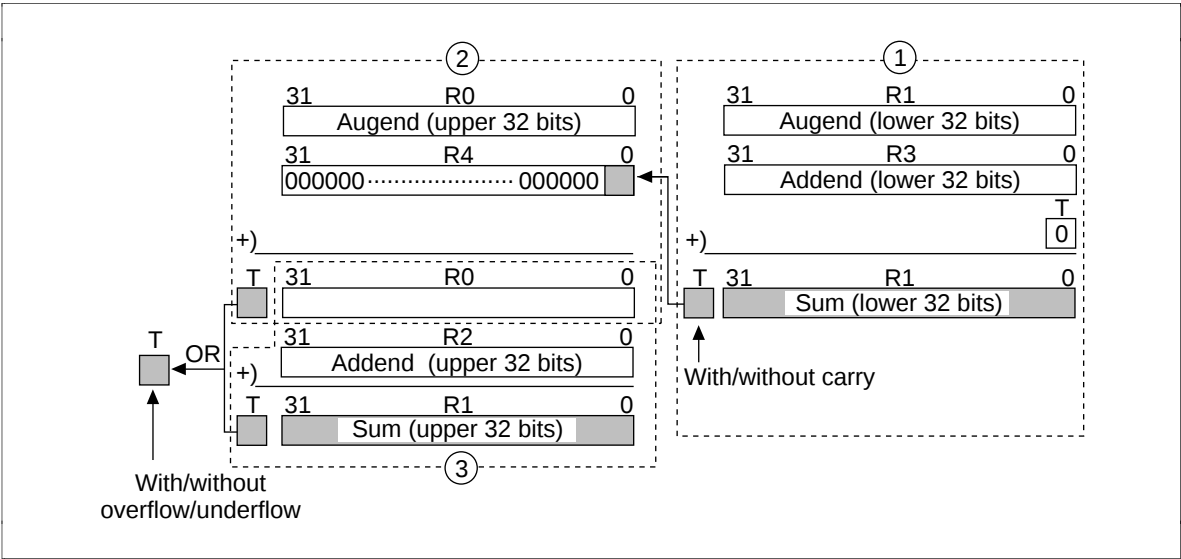

Figure 3.30 Signed Addition (ADDS64)
- 1. ADDV adds the lower 32 bits of the augend and addend by the add with carry instruction (ADDC). If a carry occurs after addition, it is indicated in the T bit (figure 3.30 (1)).
- 2. ADDV adds the carry to the upper 32 bits of the augend. Stores the T bit contents of step 1 in R4, and adds it to the upper 32 bits of the augend with the binary addition with overflow check instruction . If a carry occurs, 1 is added to the upper 32 bits of the augend. If there is no carry, 0 is added to the upper 32 bits of the augend. The overflow/underflow is indicated in the T bit after addition (figure 3.30 (2)).
- 3. ADDV adds the sum of step 2 to the upper 32 bits of the addend by binary addition with overflow check instruction (ADDV). The overflow/underflow after addition is indicated in the T bit (figure 3.30 (3)).